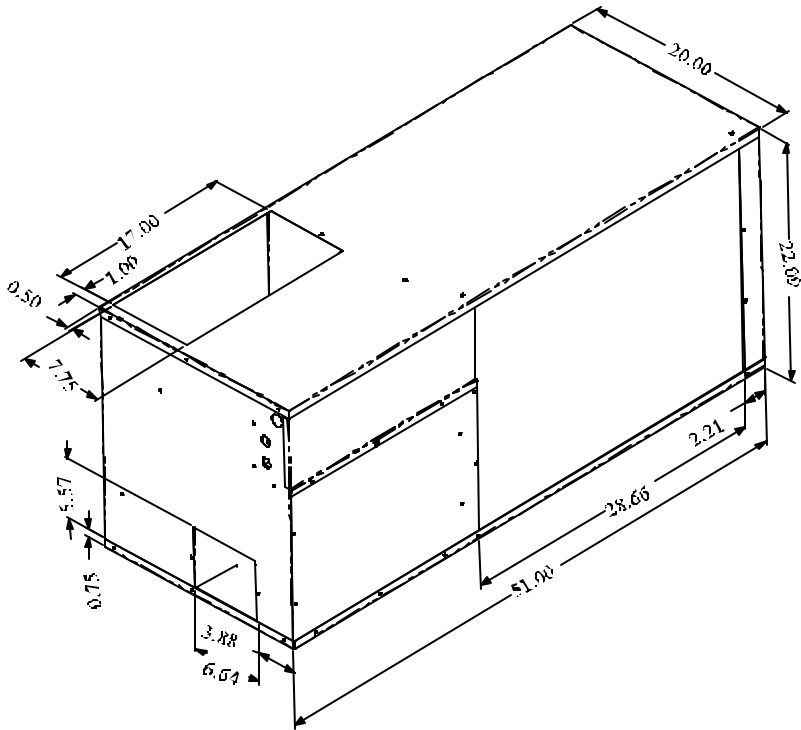

FIGURE 1
The outdoor air flow is drawn in through the side of the air conditioner (across the outdoor coil), and discharged out through the bottom of the appliance (through the discharge opening). Figures 1 and 2 show the location of both the outdoor coil and discharge air opening.
- 6) Do not install any other heat generating appliance in the same cavity as the air conditioner. Additional heat in this cavity will decrease system cooling performance. Overall package dimensions are shown in Figure 1. RV Products requires that a minimum of 4 additional inches be allowed at the wiring box end of the unit to allow for the installation of both the low and high voltage wiring.
The ducting configuration is the end outlet-top return configuration. Reference Figure 1. This system ducts the supply air out the end while the return air is drawn in through the top. With this configuration, one cut out will be required to match the end opening and another to match the top opening.
- B) Each circuit high voltage wiring must be routed through a separate opening in the outer cabinet of the wiring box. These openings are referred to as the "power wire entries". See Figure 1. RV Products provides these two openings, each opening is a 7/8" diameter opening.